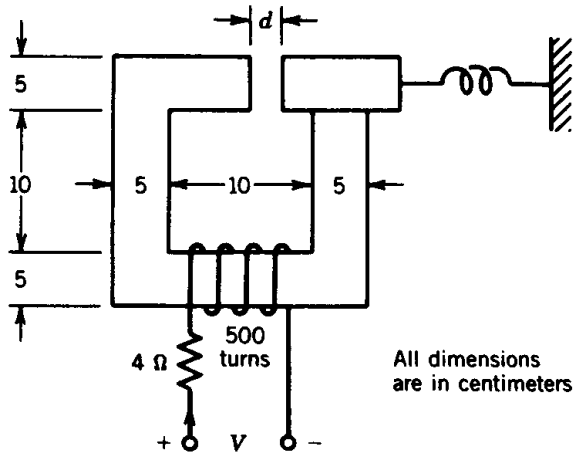

FIGURE P3.3
- 3.3 An actuator system is shown in Fig. P3.3. All dimensions are in centimeters. The magnetic material is cast steel, whose magnetization characteristic is shown in Fig. 1.7. The magnetic core and air gap have a square cross-sectional area. The coil has 500 turns and 4.0 ohms resistance.